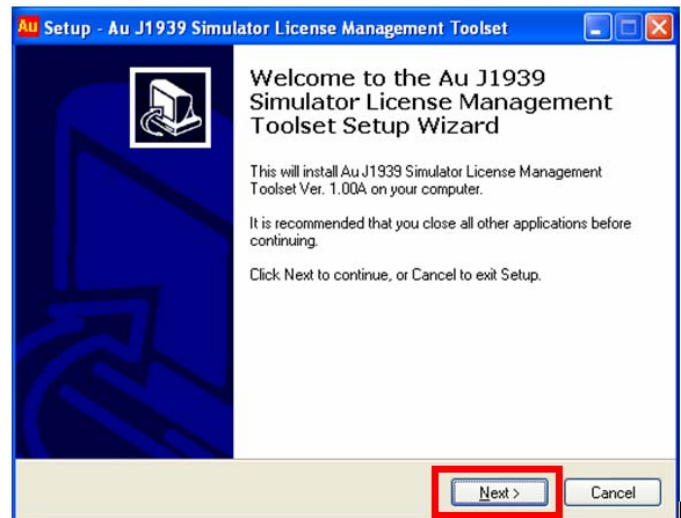

Figure B-3
3. "License Agreement" window shows up, please read the license agreement and select "I accept the agreement", then click "next" (Figure B-3)